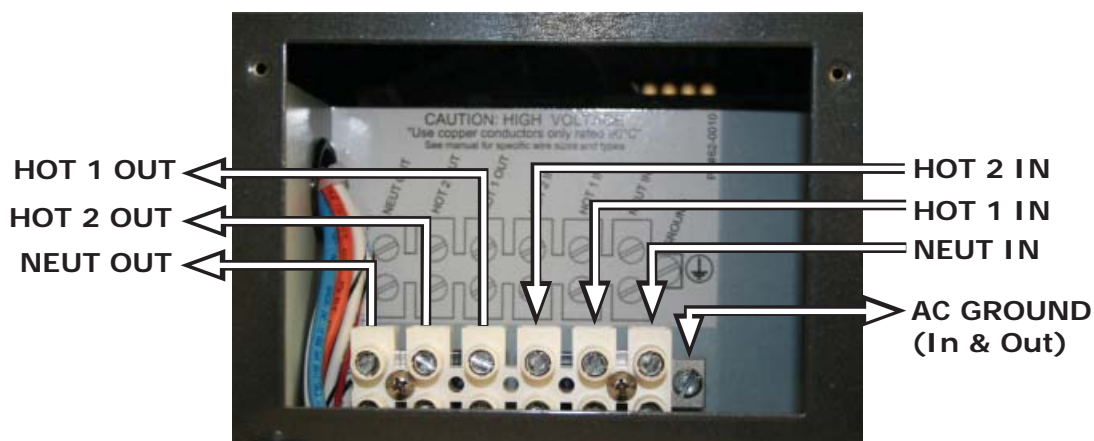

Figure 2-10, AC Terminal Block
This section provides information on how to make the AC connections to the inverter using the correct AC wire size and the corresponding overcurrent protection. The ME2012, ME2512, and ME3112 models use an AC Terminal Block (see Figure 2-10) to connect the inverter's AC input and output wiring, whereas the ME2000 models have field wiring leads (see Figure 2-16).
1. Remove the two Phillips screws on the AC Access Cover (see Figure 1-3, Item 15) to access the internal AC Terminal Block (see Figure 2-10).
AC Side - Where the AC output from the inverter is connected to an AC load center, there should be an equipment grounding conductor connected between the inverter case and the grounding point in the AC load center. The AC equipment grounding conductor is sized per Table 2-5, and is connected to the inverter's AC equipment grounding terminal as shown in Figure 2-10 (or a grounding wire for the ME2000 models).